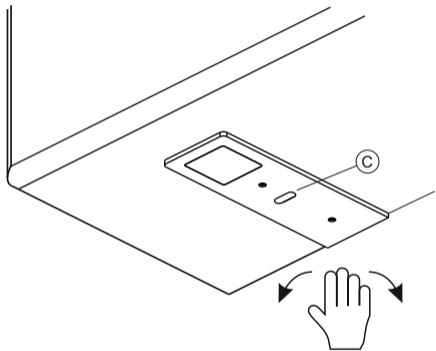

Fig 3
POLAR D-MOTION SMDL VERSION OPERATION (fig.3):
Move the hand quickly across the sensor (C) 3 times (fig.3), with the lamp on, to select the required colour temperature.
FUNCIONAMIENTO POLAR D-MOTION SMDL (fig.3)